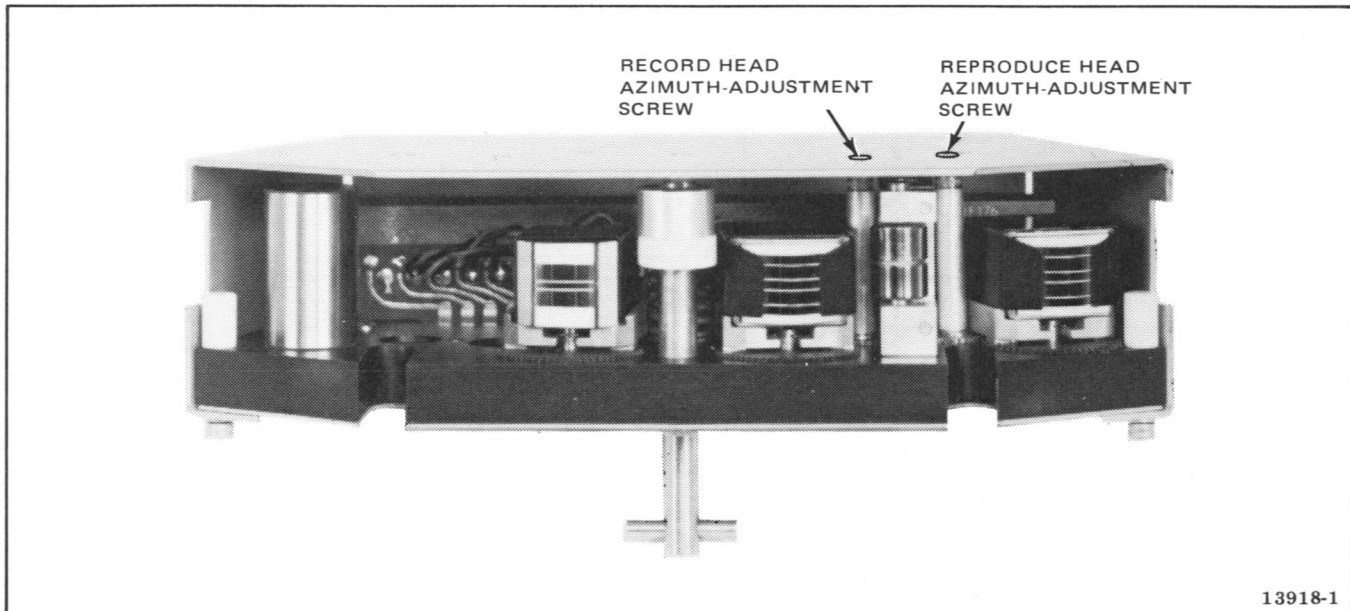

Figure 5-11. Azimuth Adjustment Screw Location
5-33. Head Azimuth and Phase – General Discussion. The only head adjustment required is for record and reproduce head stack azimuth. Precision mounting of the record and reproduce head stack has eliminated the need for adjusting tape wrap, height, and zenith. The azimuth adjustment is made by turning a hex socket screw accessible through the top of the head shield (Figure 5-11) which causes a tapered gear to rotate underneath the head-stack precision plate. The azimuth adjustment is adjustable over a range of ± 15 minutes of arc.
10. While reproducing the highest frequency tone on the alignment tape (7.5 kHz at 3.75 in/s or 15 kHz at 7.5, 15, and 30 in/s), adjust the reproduce head azimuth screw (Figure 5-11) for maximum output.
2. As a preliminary adjustment, turn reproduce head azimuth adjusting screw (Figure 5-11) so that reference hole in tapered gear is in front of the head-gap region.